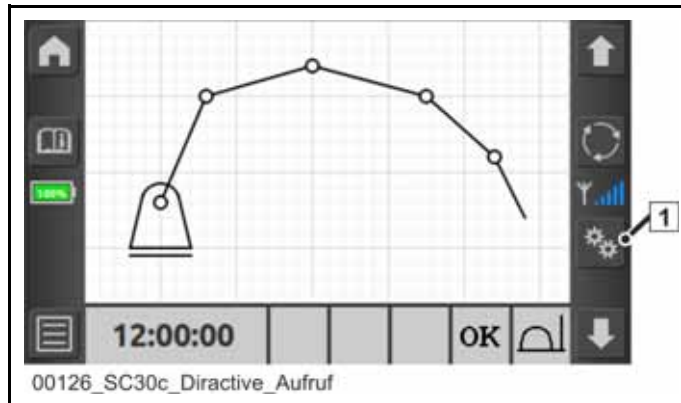
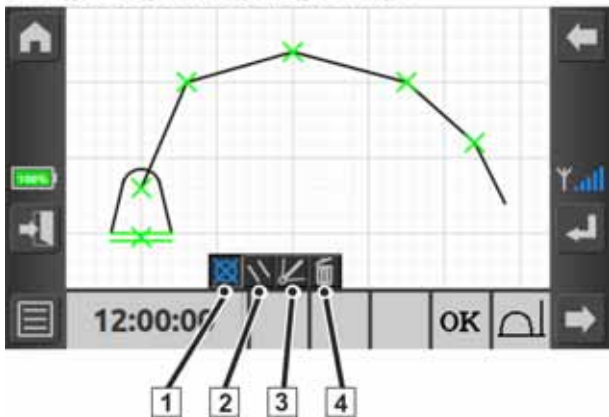

Fig. 460
Fig. 461
Open the "Directive" screen using "Open settings" (1) (**Fig. 460**). The screen also contains a function bar, see (**Fig. 461**).
The main "Directive" screen (**Fig. 460**) contains an overview of the functions that are currently locked.
Caption for (Fig. 461)